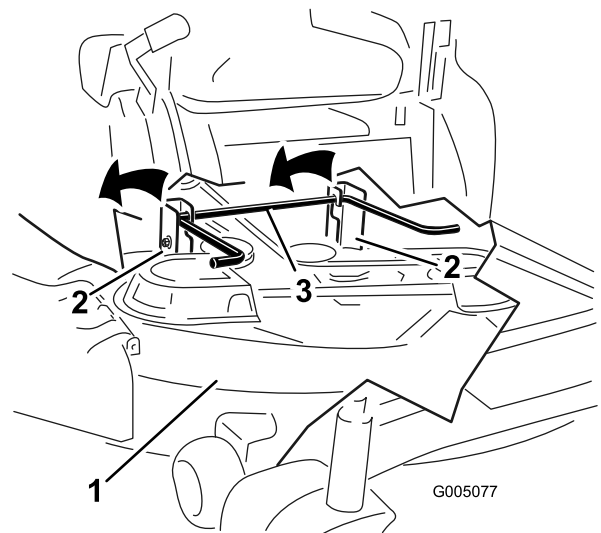

Figure 64
6. Lift the mower deck and hanger brackets clear of the rear lift rod and lower the mower carefully to the ground (Figure 64).
5. Lift the rear of the mower deck and guide the hanger brackets over the rear lift rod (Figure 64).